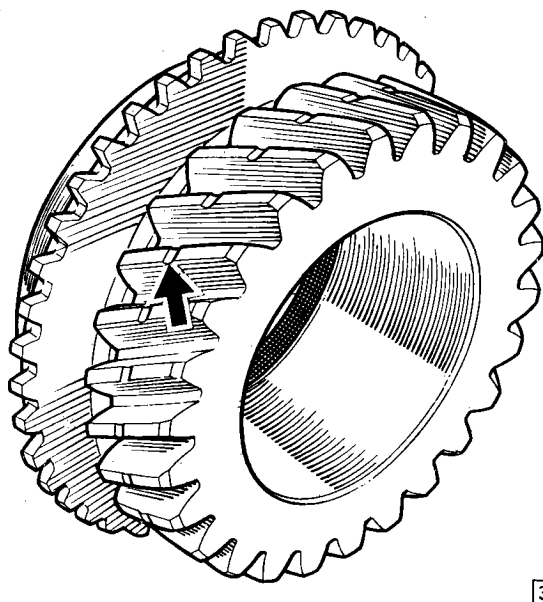

Fig. 16. Showing the groove which identifies the 'E' type gears.
- (iii) The "E" Type constant pinion, countershaft and 3rd speed gear have a groove machined around the periphery of the gear, see Fig. 16. This is to distinguish the "E" Type gears from those fitted to the same type of gearbox on other models which have different ratios.